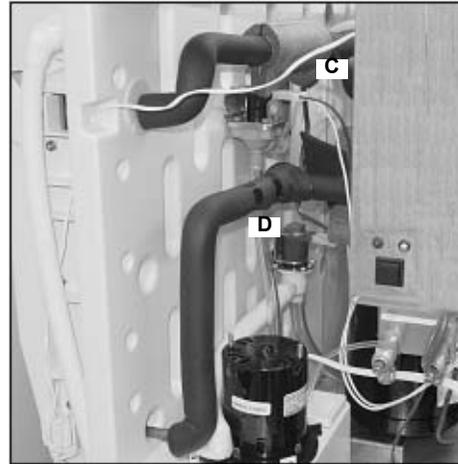

Figure 10.
7. Disconnect the electrical plug from the Water Fill Valve (C) and Water Dump Valve (D) (Figure 10).